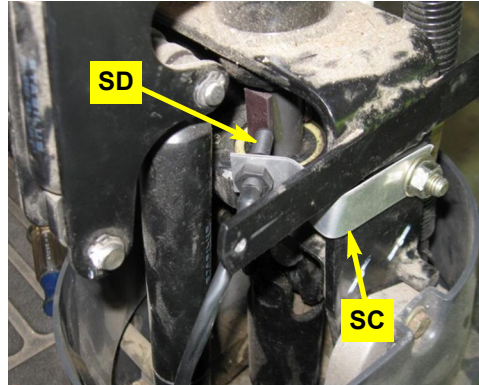

Figure 4b: Switch installed and adjusted
Figure 4b with insets: Run-tee at tank port, machine’s tank hose reconnected, tank hose installed
- b. Adjust the bends and twists in **SC** to align **SD** with the magnets and adjust **SD**'s sensor face to 1/8" to 1/4" from the magnets (Figure 4b).